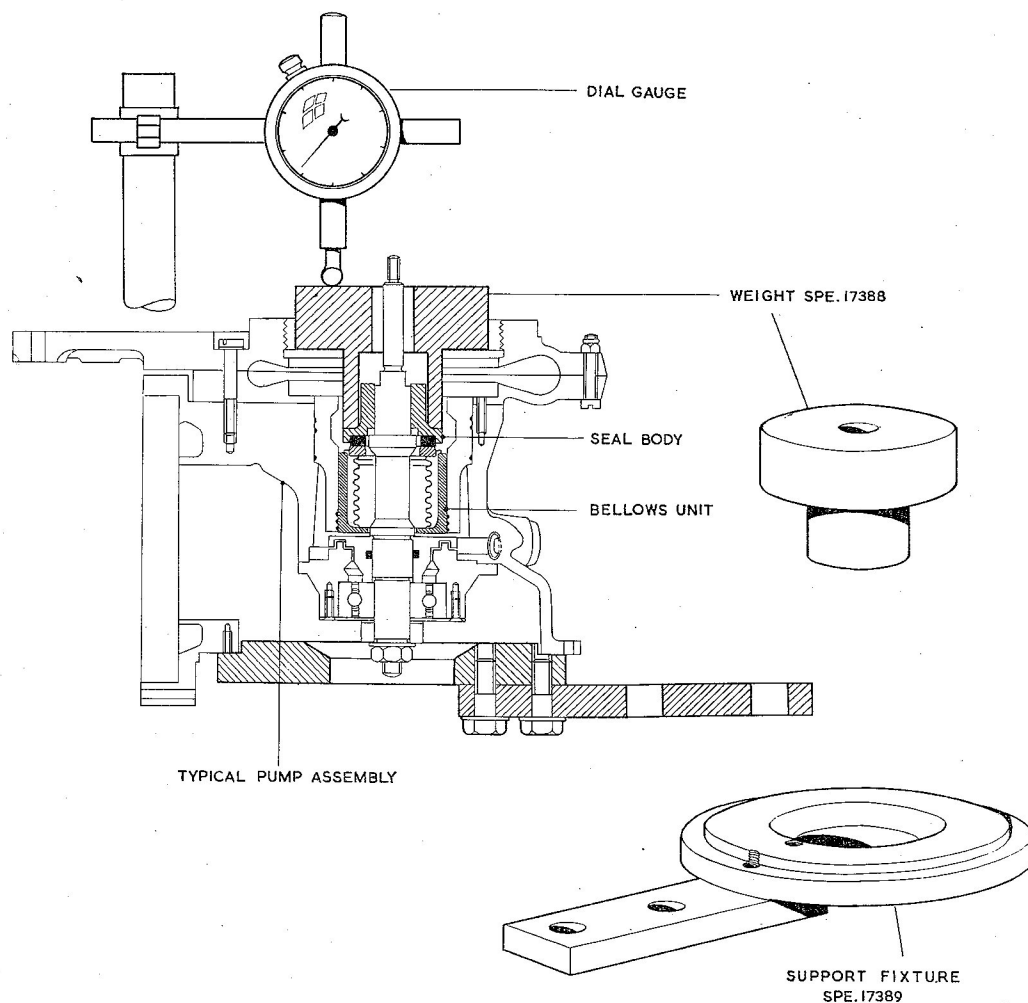

Fig. 10. Bellows gland loading fixture
33. (1) Place the bellows seal body assembly (148) in position on the pump shaft. Using the tools illustrated in fig. 10, determine the thickness of shims (147) required to give the bellows gland the correct loading of 18 ounces by proceeding as follows:—